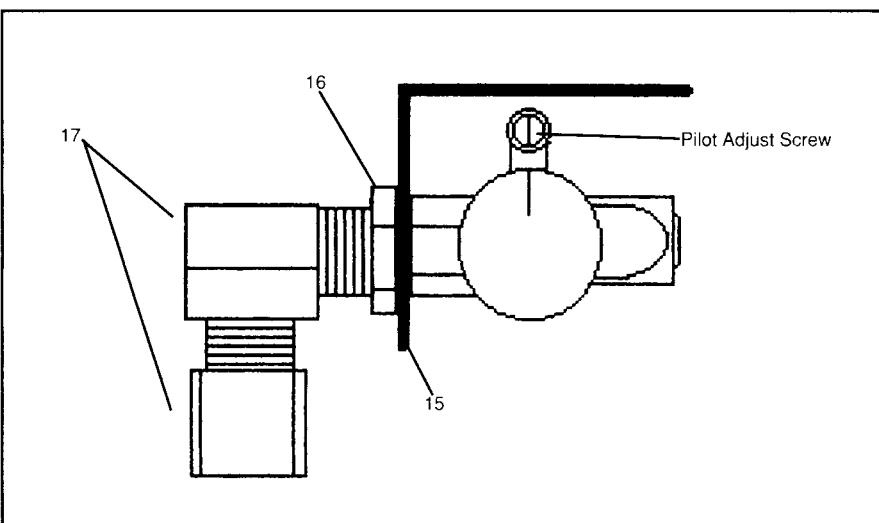

Figure 4
- E. Connect the (2) 3/8" Street Elbows (Part #17) and screw the 3/8" Locknut (Part #16) down on the male threads of the elbow. Place the hole of the Heat Shield (Part #15) over the elbow and slide it down against the locknut. Apply pipe dope to the male threads of the elbow and attach it to the control valve. (See Figure 4)
IMPORTANT: Be sure to turn the pilot adjust screw with a screwdriver (2) full turns in a counter-clockwise (↺) direction to enable pilot operation. (See Figure 4)